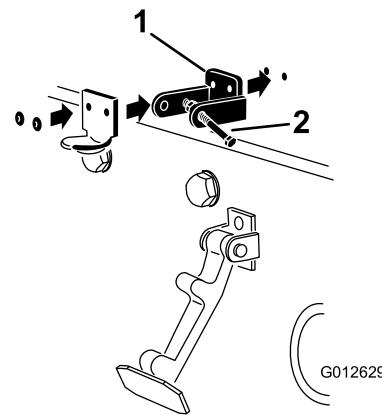

Figure 14
Note: The lock bracket must be against the hood (Figure 14). Do not remove the bolt and nut from the lock-bracket arm.
5. Rivet the brackets and the washers to the hood (Figure 14).